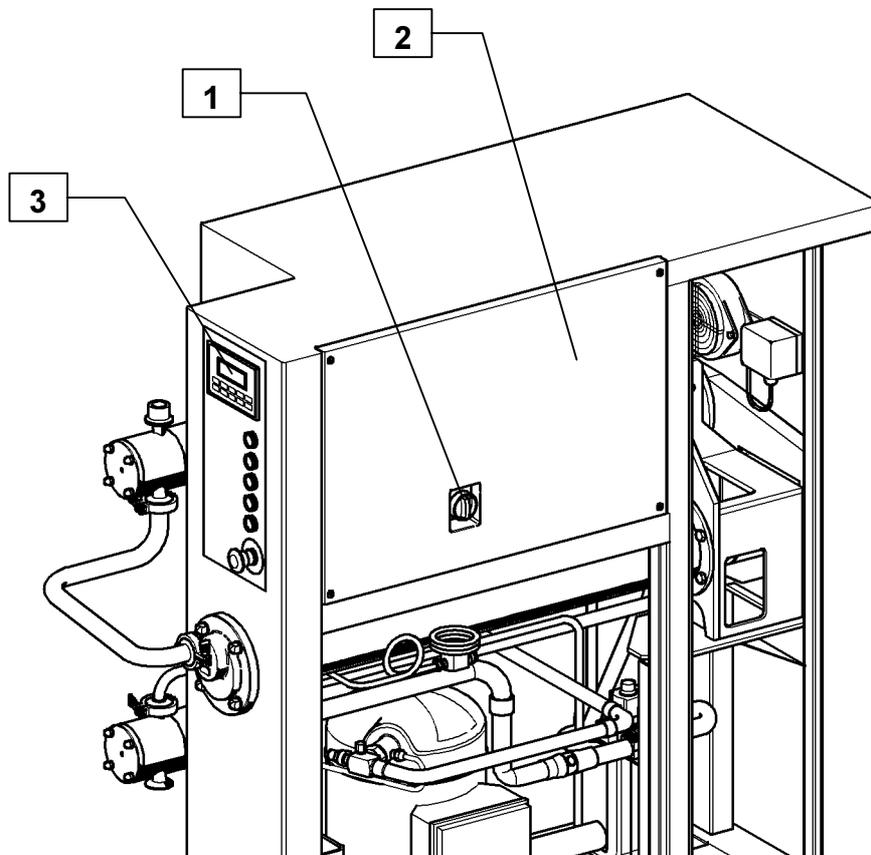

Fig. 4-7 – End of installation check
- c) Make sure that the voltage and the electric supply frequency of the machine correspond to the values indicated on the technical data card. Give tension to the machine closing the proper disconnecting switch installed upline the machine. Supply the machine turning the disconnecting switch (Fig. 4-7 pos. 1) mounted on the electrical board (Fig. 4-7 pos. 2). Check that the display (Fig. 4-7 pos. 3) lights up.